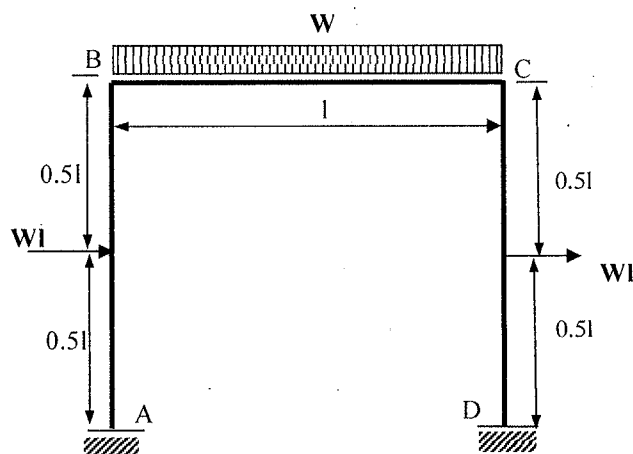

Figure Q4
A portal frame structure shown in Figure Q4. All members have same flexural rigidity (EI). You can neglect the axial deformation.